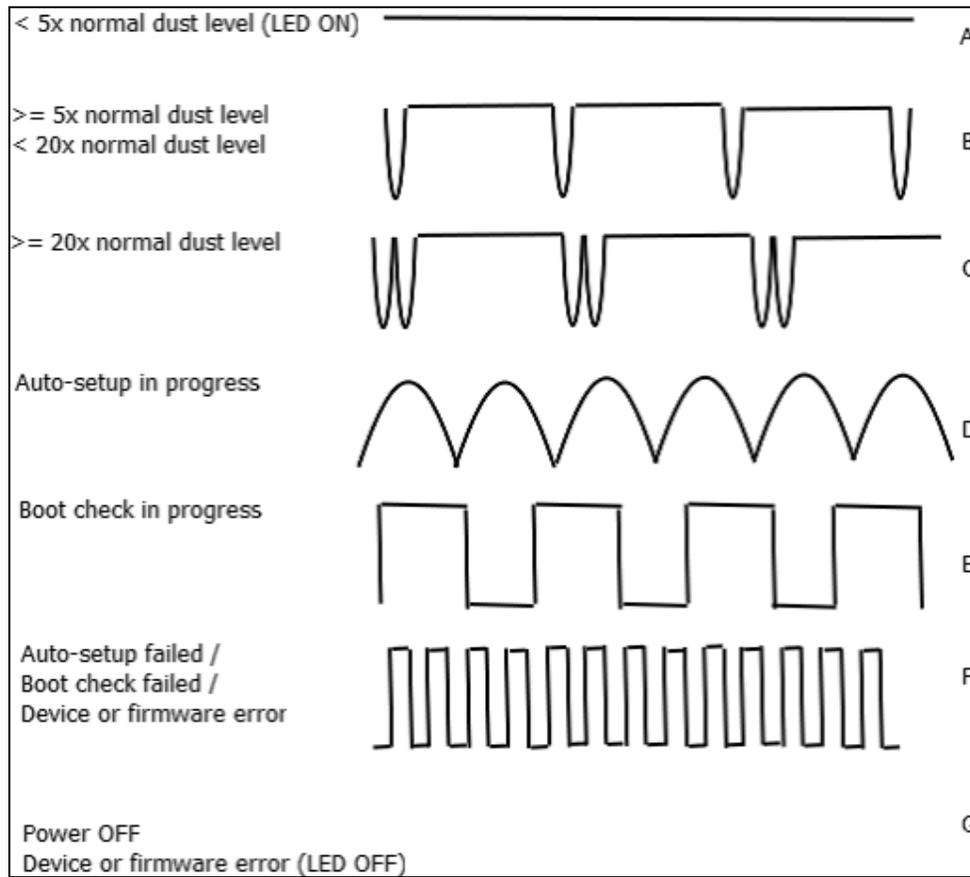

Figure 5 Description of Snifter A2 EX cover illumination sequences.
2.1 by connecting the automatic setup signal (green wire) to the V+ signal (wire) for a period of 1 second. The automatic setup will initiate and the front panel light will start to blink slowly (sequence D in Figure 5 Description of Snifter A2 EX cover illumination sequences.).